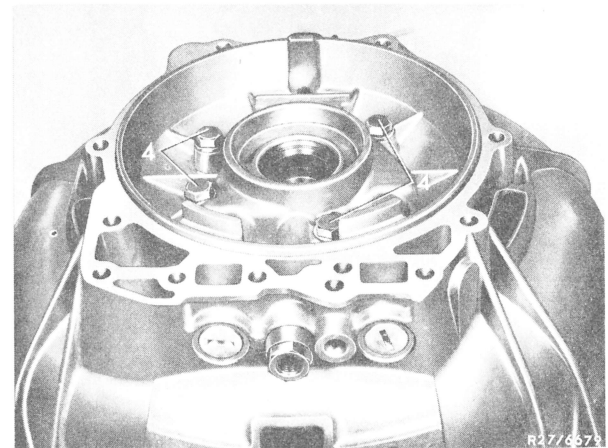

Fig. 2
2 Unscrew fastening bolts (4) (Fig. 2).
12 Insert primary pump into transmission cover and tighten fastening bolts (4) to 2.0 kpm (Fig. 2).